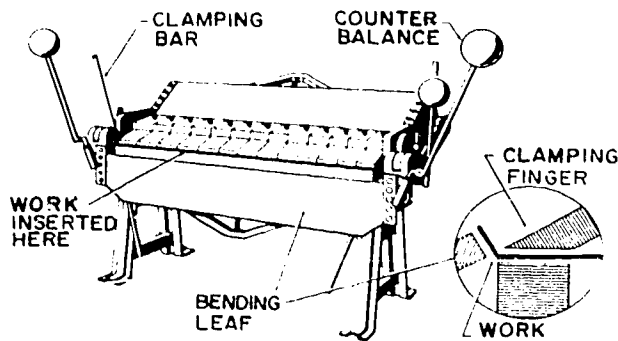

Figure 3-3. Box and pan brake.
**Box and Pan Brake.** The construction of the box and pan brake is a great deal like that of the cornice brake except that the clamping leaf of the box and pan brake is divided into removable sections called fingers or shoes. These fingers, as shown in figure 3-3, vary in width and are interchangeable. This machine is especially designed for making boxes of various sizes and shapes, because it permits the forming of all sides without distorting any of the finished bends. If the need arises, you can use this brake to do most of the same type of work that can be done on the standard cornice brake. The main advantage a box and pan brake has over the cornice brake is that you may form pans or boxes with four sides by using different combinations or arrangements of the fingers.